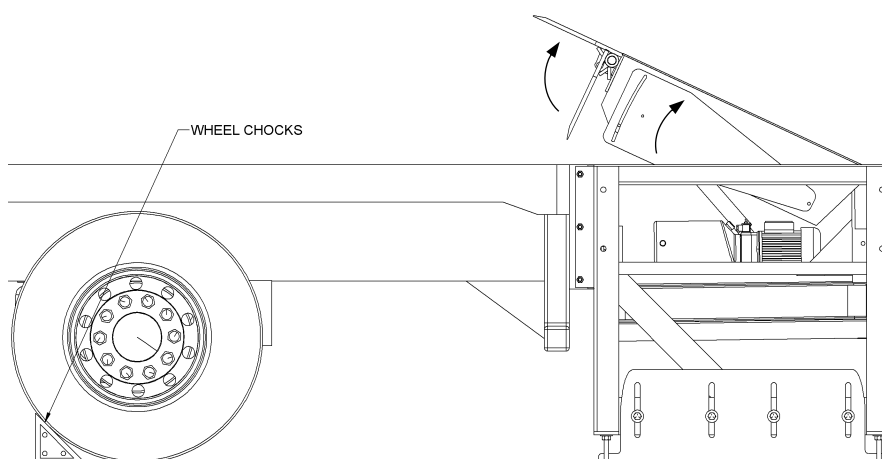

Figure 4: Activating Leveler
1. Restrain the vehicle per OSHA standards with wheel chocks or a mechanical restraint before loading or unloading the vehicle (Figure 4).
2. Press the UP button until the leveler is fully raised and the lip is fully extended (Figure 4).